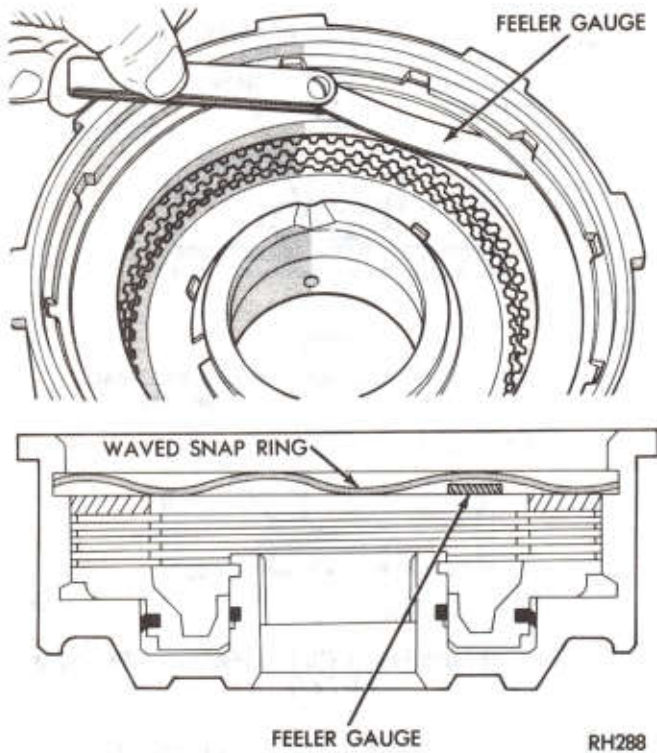

Fig. 21—Measure Front Clutch Plate Clearance
(5) Insert a feeler gauge between pressure plate and waved snap ring to measure maximum clearance where snap ring is waved away from pressure plate (Fig. 21). See "Specifications" for allowed clearance.
where snap ring is waved away from pressure plate (Fig. 21). See "Specifications" for allowed clearance.